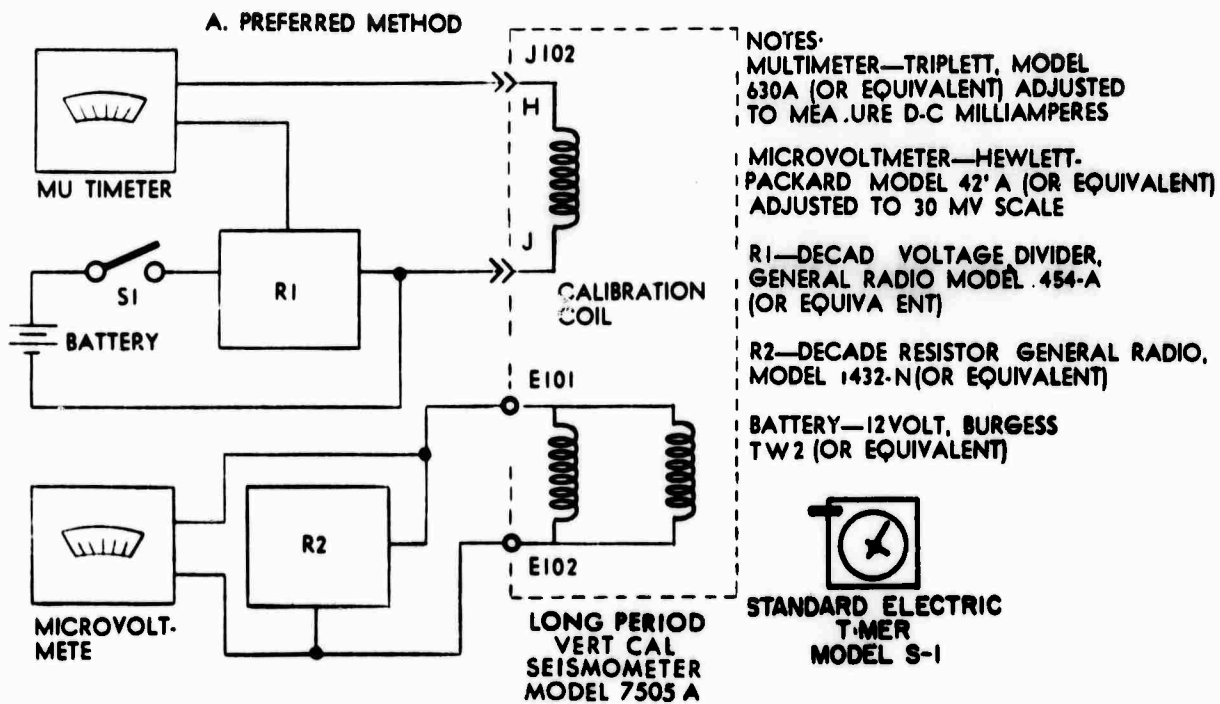
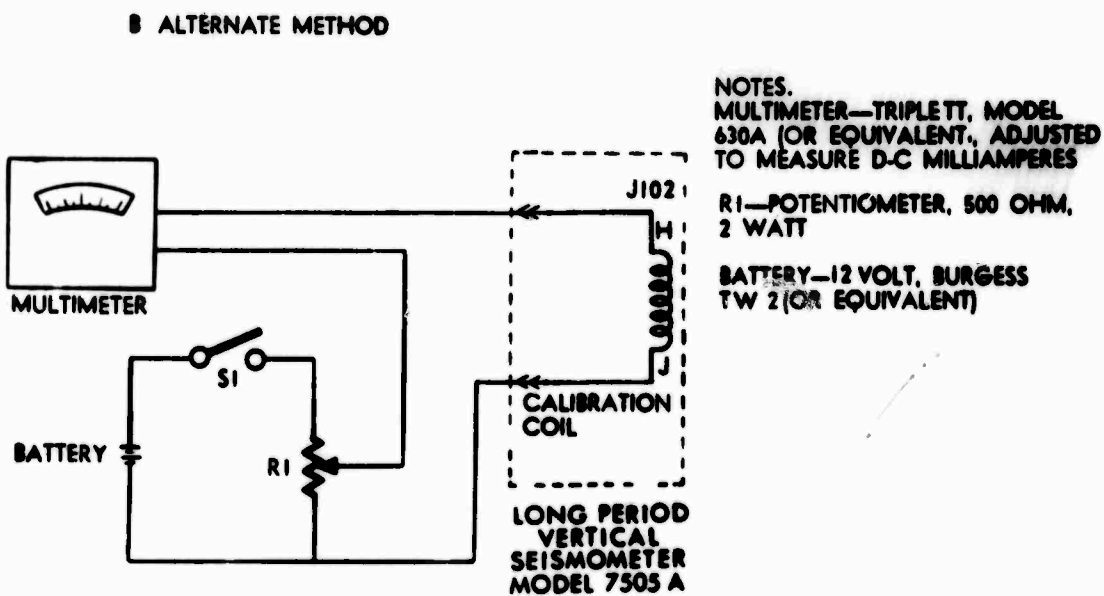

Figure 5-2 Test Arrangement for Natural Period, and Damping (Depot Method)
Figure 5-3 Test Arrangement for Natural Period, and Damping (Field Method)
f. Connect the equipment as shown in figure 5-2 for the bottom coil. For field tests see figure 5-3. Adjust R1 for the lowest voltage that will give a usable deflection of the boom assembly when the switch is closed momentarily. Adjust R2 (figure 5-2) to approximately 10,000 ohms.